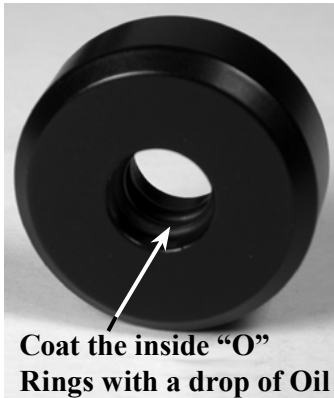

Figure 8
7. Locate the Tone Arm Counterweight and the supplied small bottle of Bearing Oil. Using a small cotton swab (Q-Tip) apply one drop of the oil to the inside center of the Counterweight "O" Rings. Refer to figure 8.